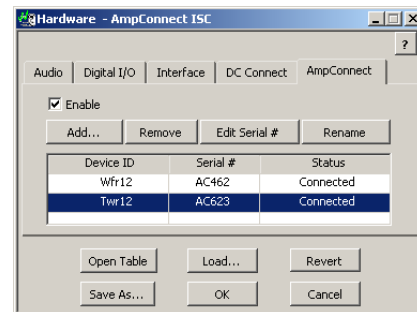

Figure 3-3: AmpConnect Setup
- **Rename** - Change the Device ID field to a unique name. The example in Figure 3-3 shows the Device IDs of the two AmpConnect ISCs have been changed to: Wfr12 and Twr12, to indicate what they are used for.